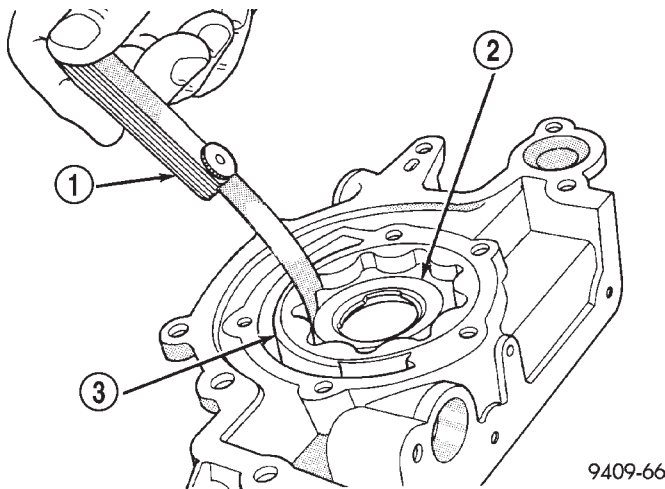

Fig. 132 Measuring Clearance Between Rotors
(6) Install inner rotor into pump housing. If clearance between inner and outer rotors (Fig. 132) is 0.203 mm (0.008 inch) or more, replace both rotors.